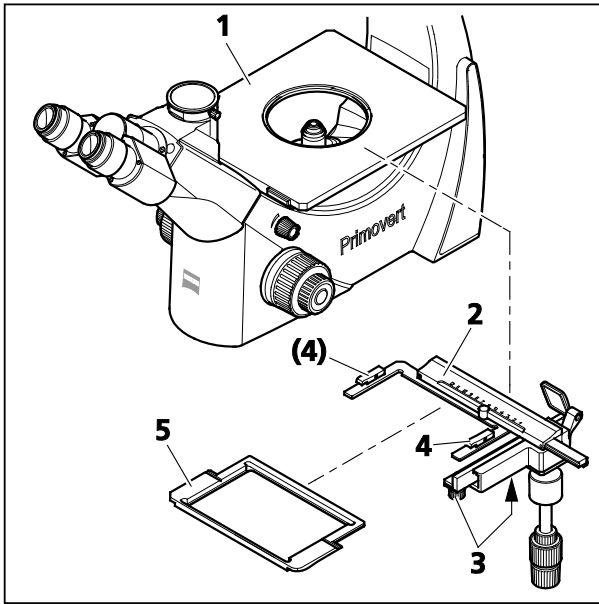

Fig. 8 Mounting the specimen guide and inserting the mounting frame
- Attach the specimen guide (Fig. 8/2) from below to the right side of the stage (Fig. 8/1) and fasten it with the two knurled screws (Fig. 8/3) of the specimen guide.
- Insert the universal mounting frame M or the mounting frame for 96-position microtiter plates (Fig. 8/5) into the specimen guide, depending on the sample vessel used. Make sure that the mounting frame stops properly in the two fixing clips (Fig. 8/4).